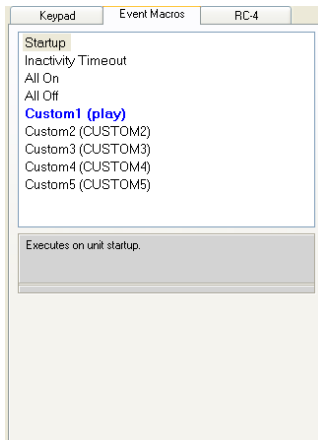

Figure 19: Event Macros Tab
- The Event Macros tab, illustrated in Figure 19, lets you add commands to several built in macro events¹, and create up to five additional custom macros that are activated upon the scheduling time (see section 4.5.2)